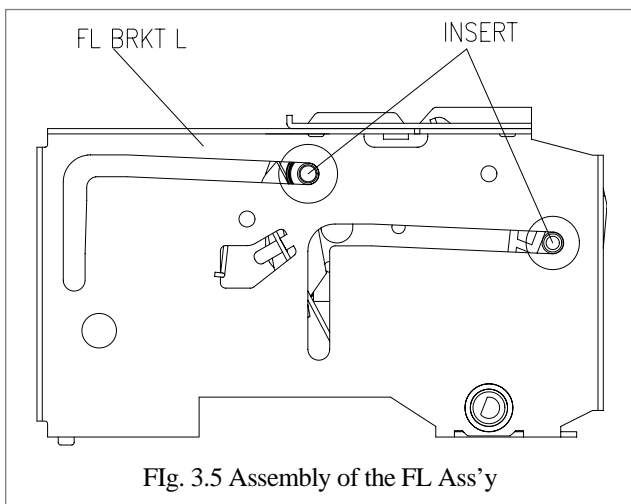

Fig. 3.5 Assembly of the FL Ass'y
- Confirm that 2 bosses on the left side of the CASSETTE HOLDER Ass'y are inserted in the groove on the left side of the top plate. Insert 2 bosses on the right side of the CASSETTE HOLDER Ass'y into the groove of the F/L BRACKET R. (Fig. 3.5)